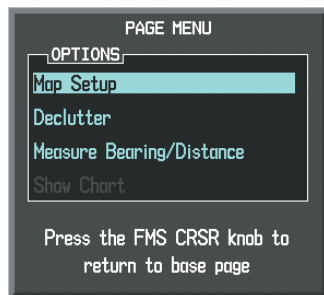

Figure 6-2 Navigation Map Page Menu
- 3) With 'Map Setup' highlighted, press the **ENT** Key (Figure 6-2).